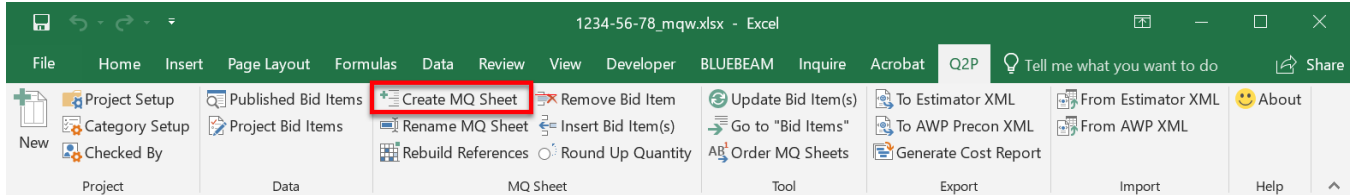

Figure 5.1 “Create MQ Sheet” command.
From the *MQ Sheet* section of the Q2P ribbon, **Q2P > MQ Sheet > Create MQ Sheet** (Figure 5.1) will bring up the dialog box to add the item/s and create the miscellaneous quantity (MQ) sheet/s in one step. If multiple bid items are created on one MQ sheet, that is known as a “summary sheet.”